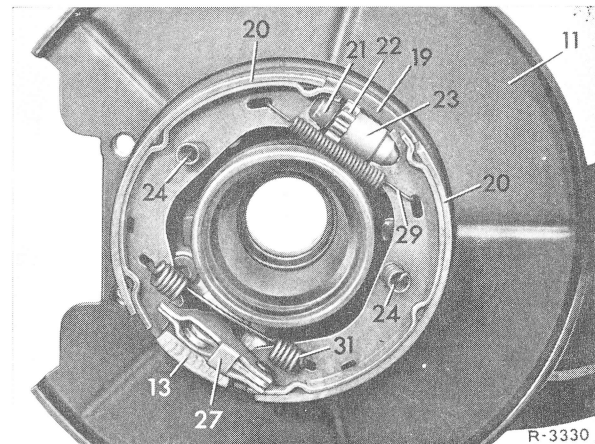
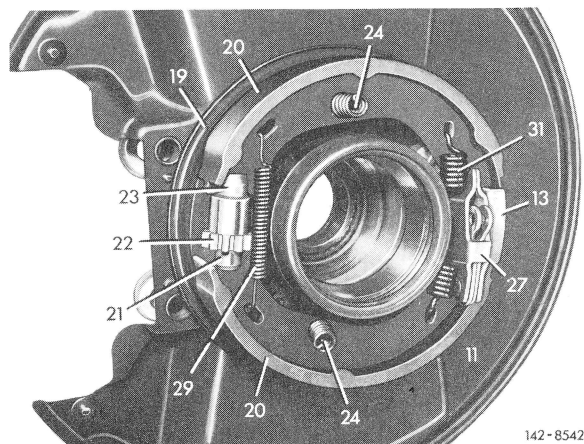

Fig. 7
Fig. 8
4 Disconnect restoring spring (31) by means of removing and installing tool (41) (Fig. 7 to 9).
13 Insert adjusting device (21 to 23) into both brake shoes in such a manner that adjusting wheel (22) on diagonal swing axle points forward (Fig. 7) and on diagonal swing axle with starting torque compensation downwards (Fig. 8 and 10).